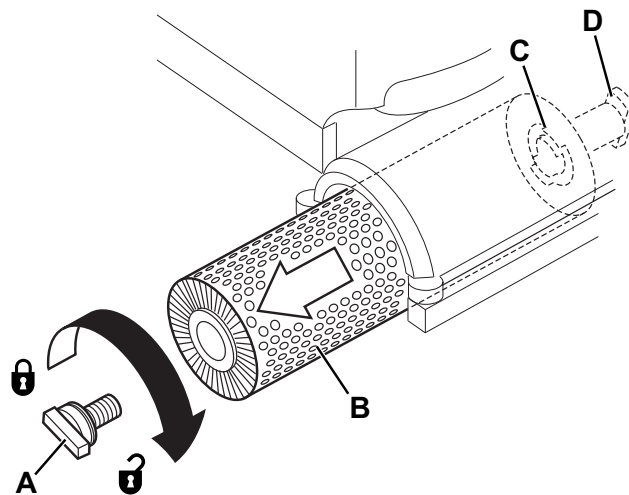

Figure 7
1. Manually remove the screw (A, Fig. 7) by turning it clockwise.
2. Remove the brush (B) from the deck.
5. Insert the brush with the hub guides (C, Fig. 7) on the drive shaft (D) as shown in the figure.
6. Manually tighten the screw (A) by turning it counter-clockwise to fasten the brush (B) to the drive shaft.